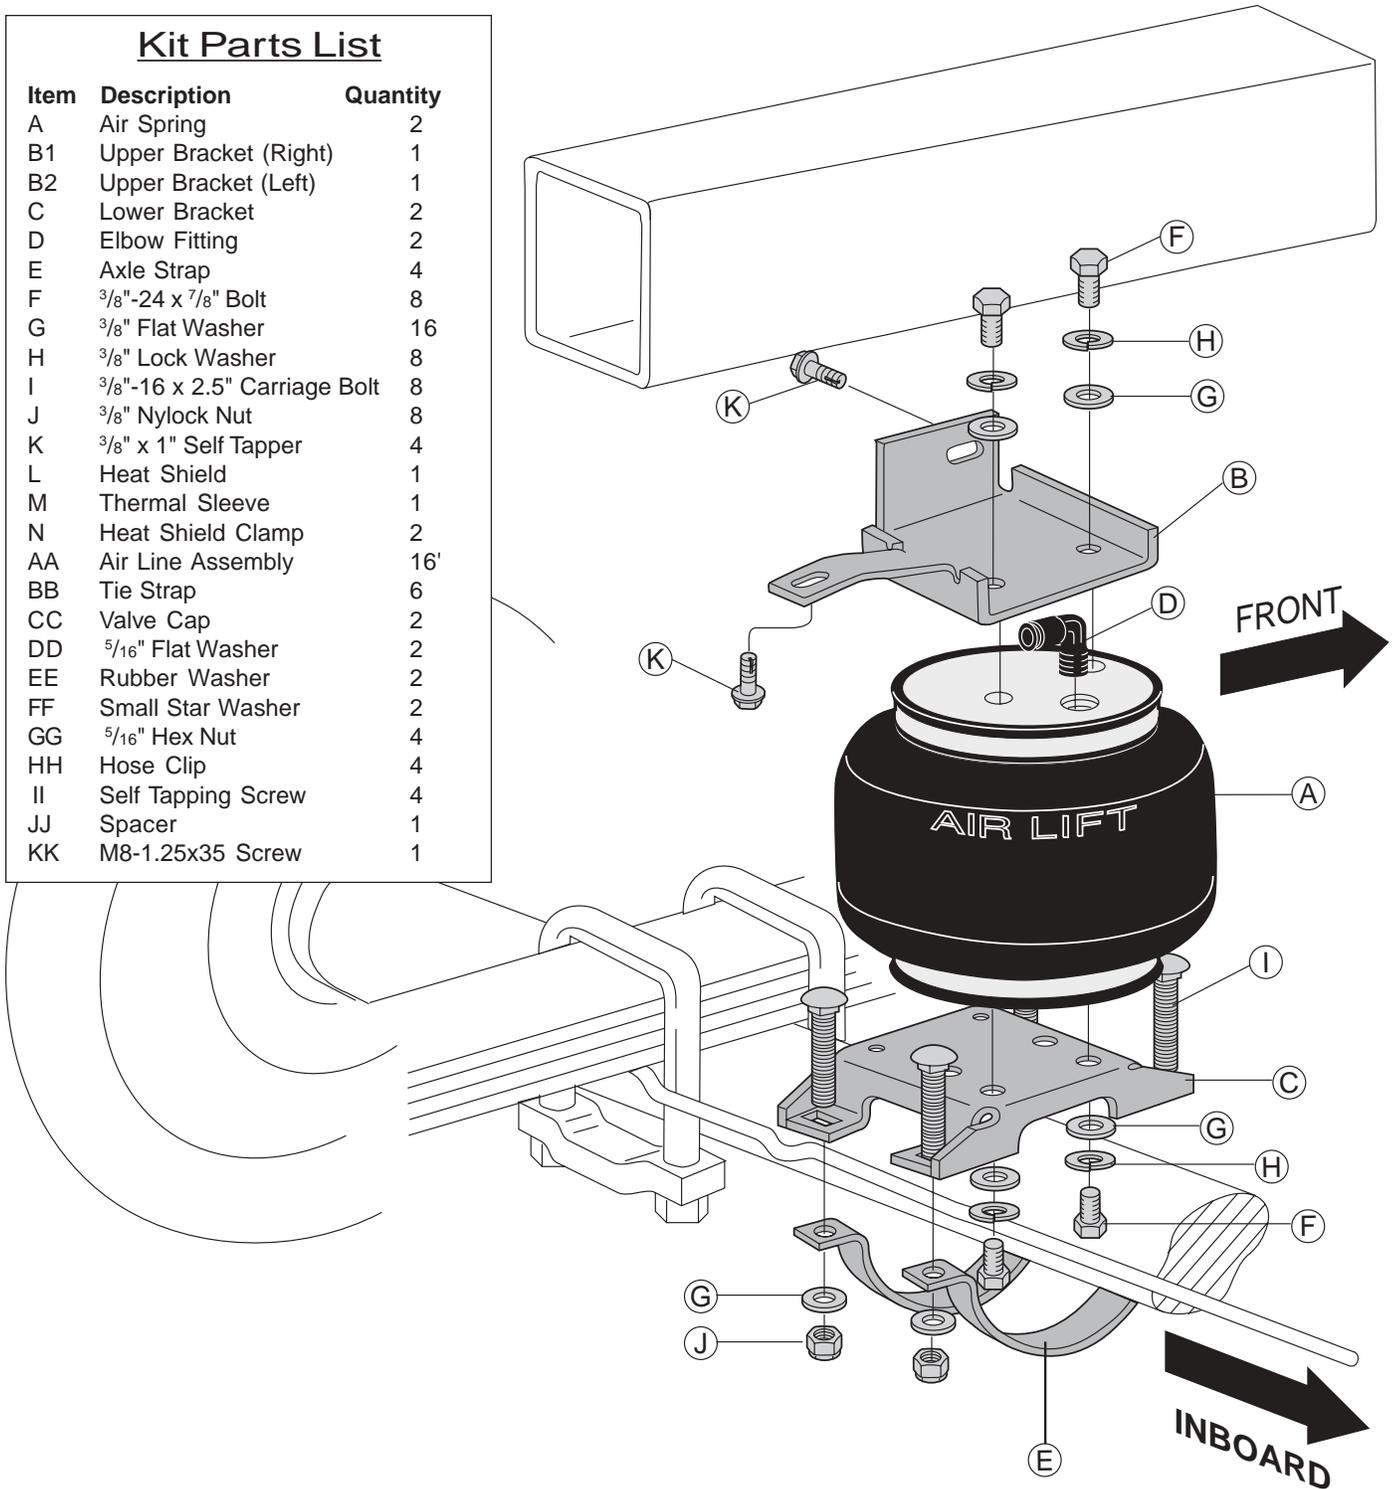

Figure 1
1. Install 90 degree air swivel fitting (D) to the top of the bellow. This fitting is precoated with sealant. Using an open-end wrench, tighten 1 and 1/2 turns (Figures 1 and 2).
2. Attach the upper bracket to the top plate (label end) of the bellows with two bolts (F), lock washers (H), and flat washers (G). Torque to 20 ft-lbs. Assemble both units (Figures 1 and 2) in this manner. There are left and right hand units (indicated by "LH" or "RH" stamped in the bracket).
- Using the holes in the upper bracket as a template, drill two $\frac{5}{16}$ " holes into the frame. Insert and tighten the self tapping bolts (K) and torque to 15 ft-lbs. (Figures 1 and 7).